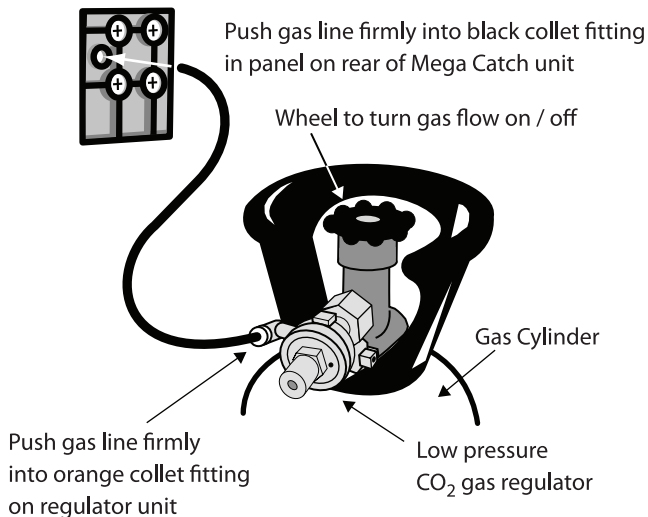

FIG 3.2 -Connection of trap to CO₂ gas cylinder
Before attempting to use the Variable Quantity Slow CO₂ Gas Release System you must first follow these instructions (also see figure 3.2 below):
4. Push one end of the gas line firmly into the orange collet fitting on the Gas Regulator unit. Push the other end of the gas line firmly into the black collet fitting in the panel on the rear of the Mega-Catch™ unit (see figure 3.2). Gradually turn on the CO₂ gas by turning the wheel on the top of the Gas Cylinder in an anti-clockwise direction.
6. To remove the gas line first turn the CO₂ gas off by turning the wheel on top of the Gas Cylinder in a clockwise direction. Next "bleed" the line pressure by letting the trap run for 3 minutes or so on a high gas setting eg. #5. Once the line pressure has been bled simply use two fingers to push the sides of the plastic collet fitting inwards then, using the other hand, firmly pull the gas line out of the collet fitting. (**Note:** the collets are the orange fitting at the Regulator connection and the black fitting at the Trap connection, see figure 3.2).